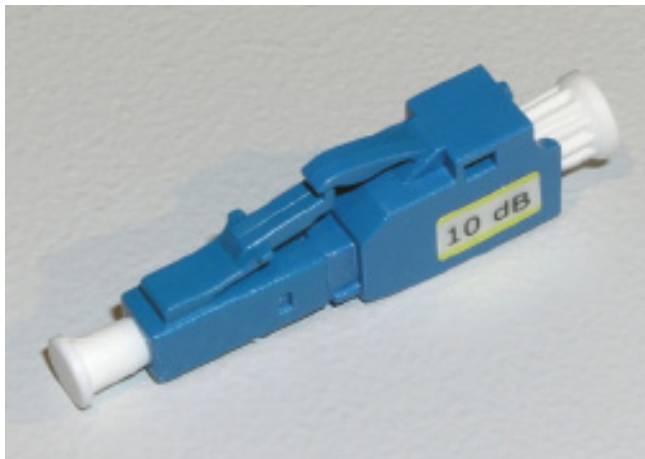

Figure 11 Attenuator, Order no. 7XV5107-0AA00
If the devices 7XV5461-0Bx00 listed in table 1 are used for the communication over distances (s) shorter than specified in the technical data, the transmitting power must be reduced via optical attenuators (see Figure 11).
If the devices 7XV5461-0Bx00 are used for the communication over distances shorter than specified in the technical data (listed in table 1), the transmitting power must be reduced via optical attenuators (see Figure 11).
*Note:* For the test mode, the FO-Repeater has to be connected to the end device as shown in Figure 11. It is also possible to connect only one port.